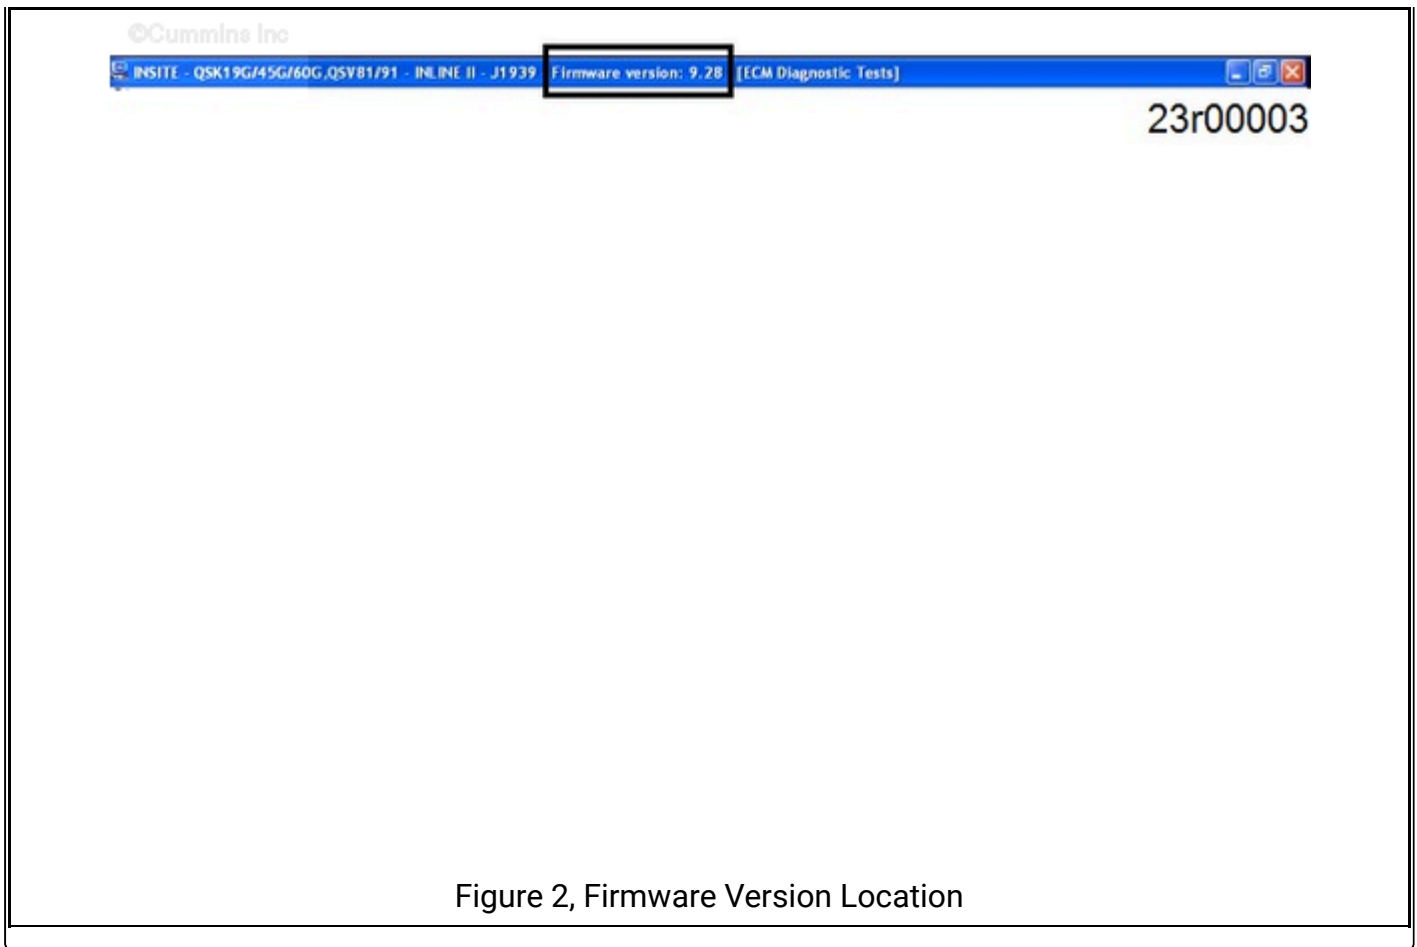

Figure 2, Firmware Version Location
- INLINE datalink adapter firmware installed (The firmware version is shown at the top of the INSITE™ electronic service tool screen after a connection has been made). See Figure 2.